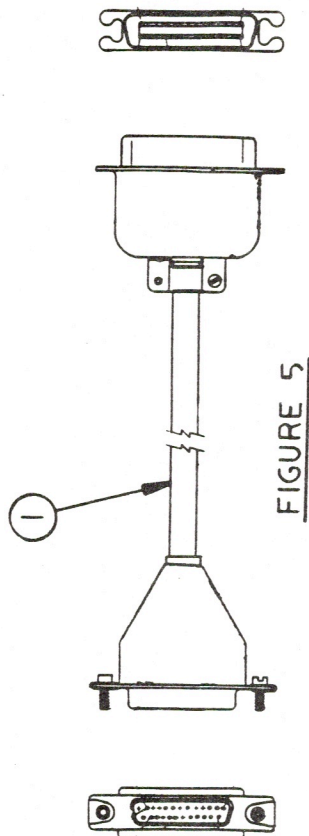

FIGURE 5
**DOT MATRIX PRINTER - CABLE (Figure 5)**
**IMAGEWRITER - PAPER TRACTOR FEED ASSEMBLY (Figure 5)**